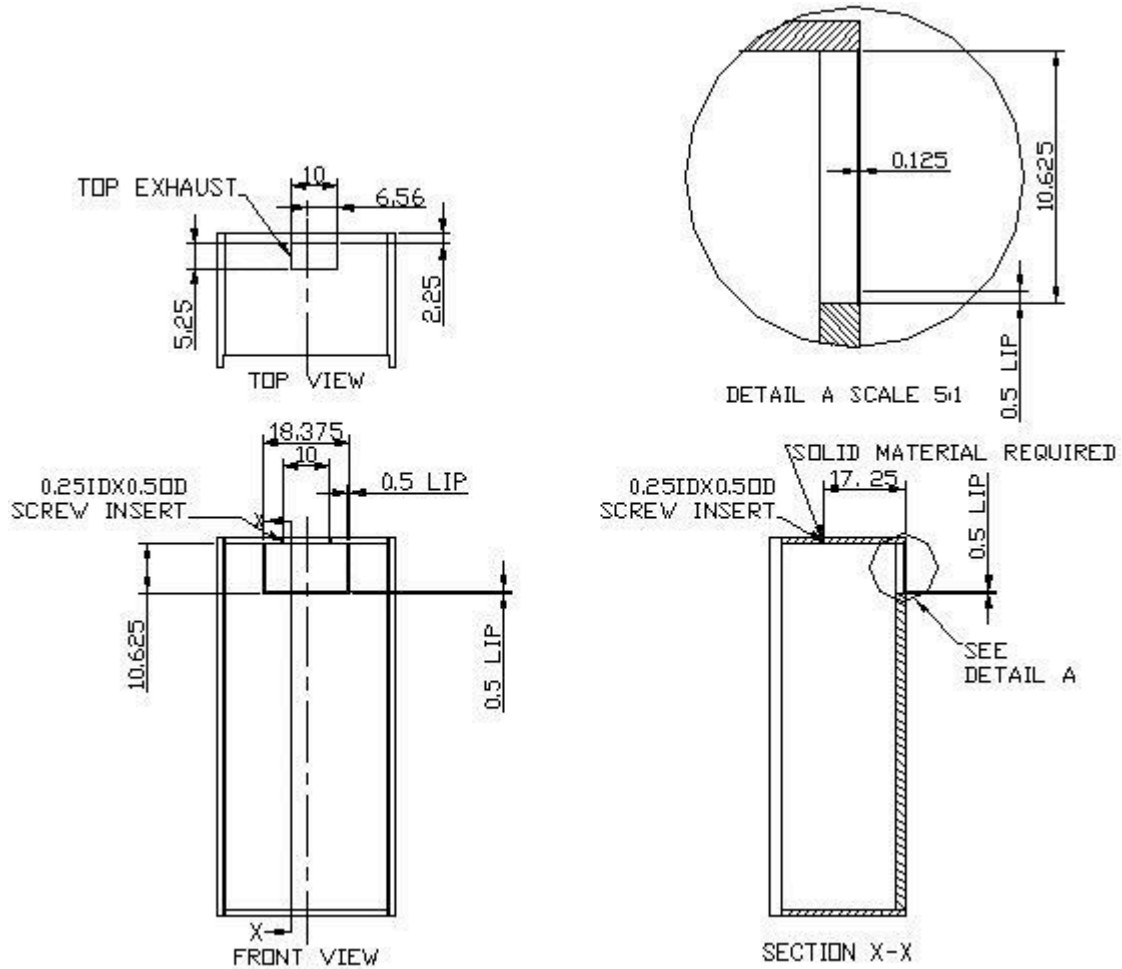

Fig. 2.1 CUTOUT AND HOLE DIMENSIONS
- Cut a rectangular inside opening at the rear of the cabinet, with 1/4" clearance inwards toward the width and height of the cooling unit. Without going through, leave 1/2" lip inside the wall to place the gaskets (see Fig. 2.1 & 2.2).
- If top exhaust installation, cut another rectangular opening at the top of the cabinet to the length and width of the top exhaust (see Fig. 2.1 & 2.3).
- Install 2 pieces of 1/4" ID wood thread inserts at the ceiling (see Fig. 2.1 & 2.4).
- Place the gaskets (1/2" foam tape) on the gasket lips (see Fig. 2.1 & 2.5).
- If top exhaust installation, place another gasket along the top exhaust at the top of the cooling unit (see Fig. 2.1 & 2.6).